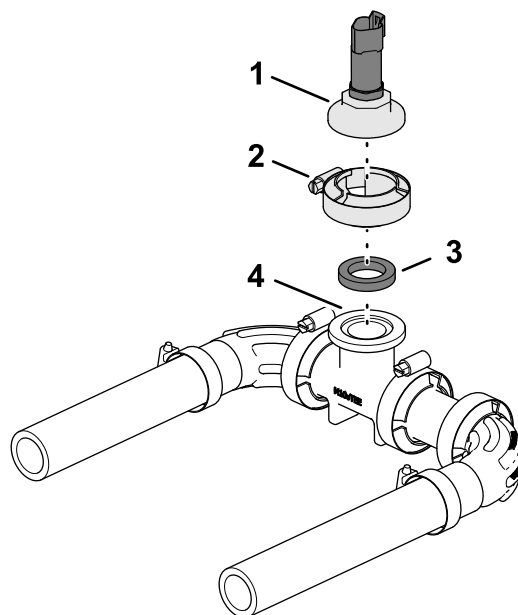

Figure 57
- Align the ported-fitting cap with pressure transducer and gasket to the T-fitting flange of the manifold (Figure 57).
- Secure the fitting cap and gasket to the T-fitting with the flange clamp (Figure 57).